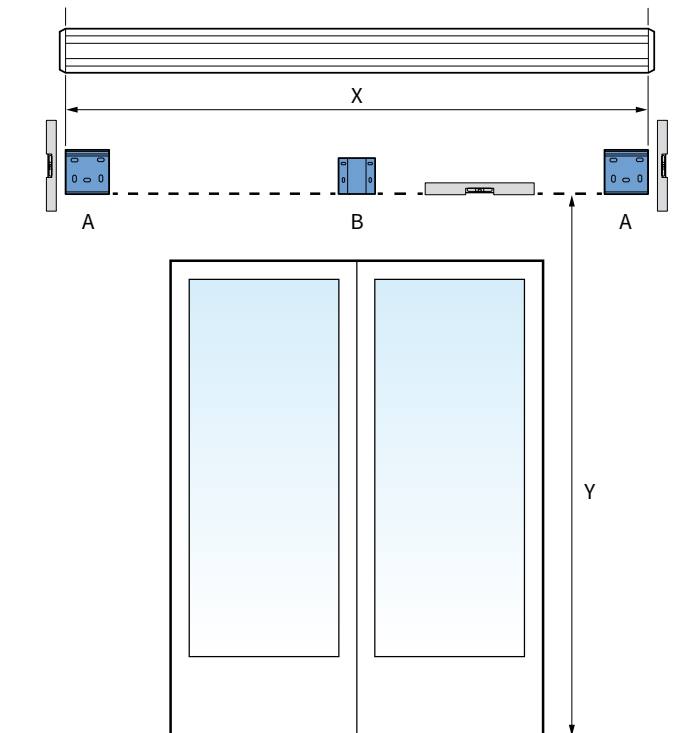

fig. 1.1 Placing wall supports
Mark the holes for the wall supports (A) and potential for the intermediate support (B) on the wall. These holes need to be aligned level, horizontal and vertical, according to the sizes X and Y in figure 1.1.